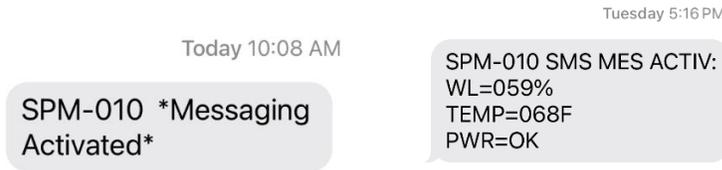

Figure 18 SPM-010 Activation Message and SPM-010BC (in case of LTE is connected) Activation direct SMS message
- See Figure 18: Activation Messages